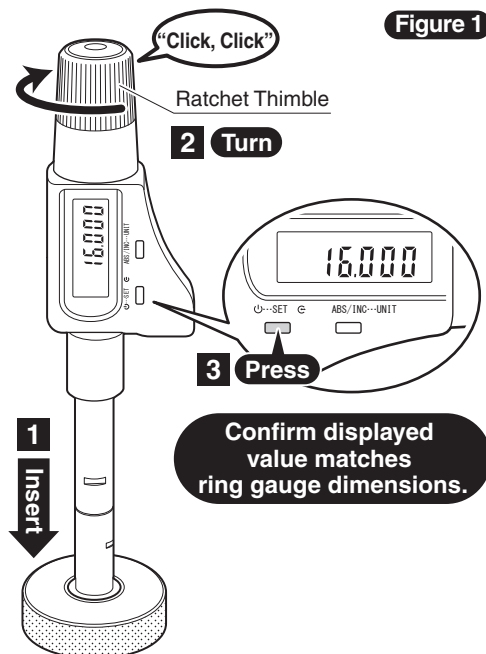

Figure 1
4. Insert the measurement head into the ring gauge and turn the thimble until the measuring surfaces make contact with the inside of the ring gauge. Continue turning until ratchet stop "clicks" 1~3 times. **See Figure 1**